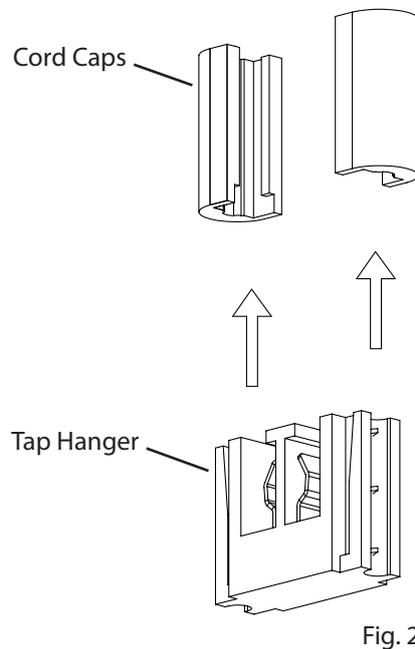

Fig. 2
1. Install the **Double Cord (or Rod) Power Feed Hanger** onto the **Power Bar**: press down firmly on the top of the Power Bar, while pressing up on the bottom of the Hanger, until the Power Bar clicks into place (Fig. 2).
3. Remove **Cord Caps** from **Tap Hanger** by sliding them up and off the sides of the **Tap Hanger** (Fig. 2).